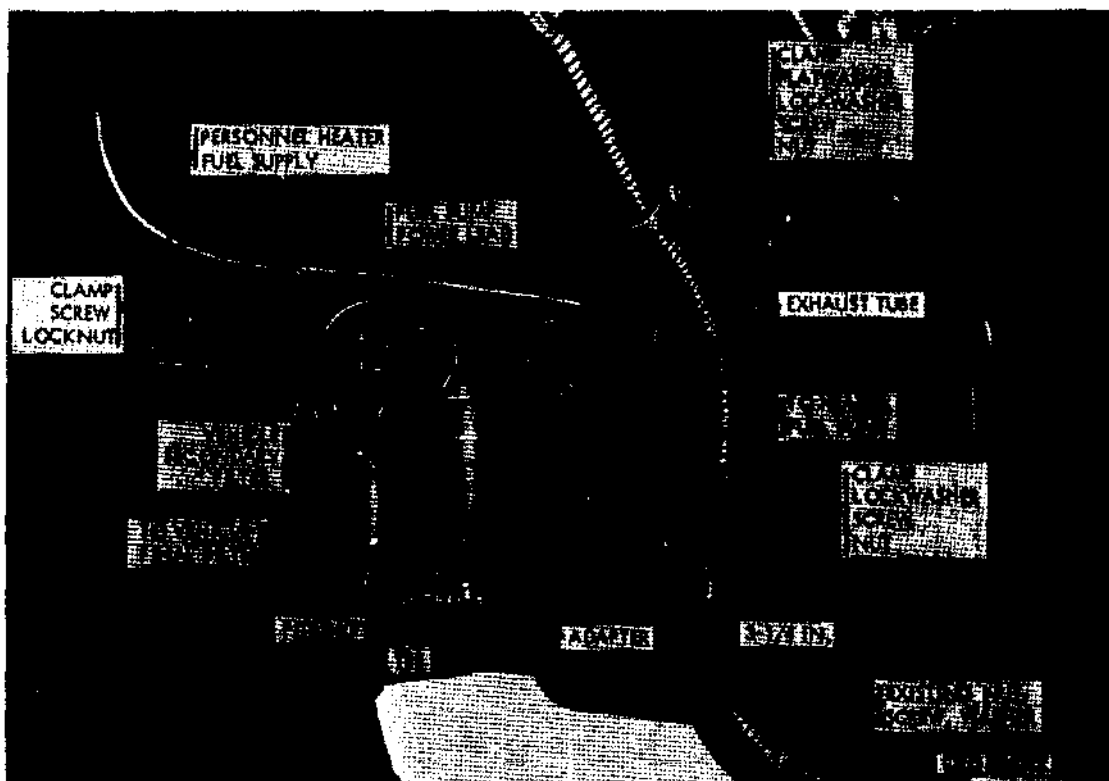
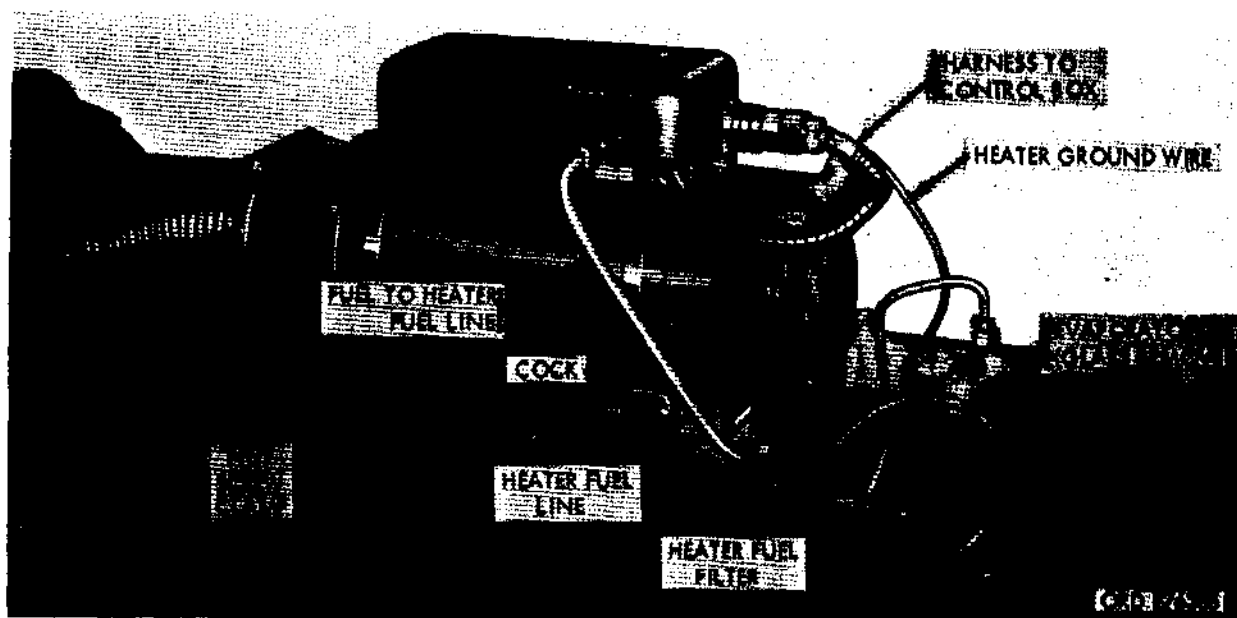

Figure 683. Attaching heater exhaust hose to fender.
Figure 686. Heater fuel lines at heater.
- (4) Drill 5/32 dia. hole through tube and elbow about 1 inch from edge of tube and insert ¼ x 3 cotter pin MS 96906-24665-363.
- (5) Place four clamps MS 96906-21333-99 around exhaust tube 7986268 approximately as indicated in Figure 683. Attach
upper 2 clamps to existing holes in fender reinforcement (Fig. 683) using ¼-28x½ screw MS 96906-35292-3, large flat washer MS 96906-35333-27, lockwasher MS 96906-27183-14 and nut MS 96906-51922-5.
- (6) Drill a 5/32 dia. hole in other arm of same fender reinforcement approximately 3-¼ inches from bottom of reinforcement (Fig. 683) and attach clamp to fender reinforcement with ¼ -28x 1 screw MS 96906-
- (3) Attach one adapter MS 39206-4 to other arm of tee installed in (1) above and attach other adapter MS 39206-4 to lower opening of fuel pump.
- (4) Attach filter bracket 10931990 to forward, inner side of heater mounting base (Fig. 686) using two 10-32x3/4 screws (MS 35207-265) and nuts 503209.
- (5) Attach filter MS 51085-1 to bracket installed in (4) above using two 10-32x1-3/4 screws MS 35207-270 and nuts 503209.
- (6) Insert nipple 121830 into heater fuel inlet and screw adapter MS 39203-4 onto it (Fig. 686).
- (7) Attach elbow MS 39202-4 to forward opening of heater filter.
- (8) Attach cock 543852 to rear opening of heater filter and attach adapter MS 39206-4 to cock.
- (9) Loosen tube from bottom of vehicle secondary filter and remove existing elbow. Discard elbow (Fig. 683).
- (10) At the opening of filter (9) above, screw on tee 444120, with one arm pointing in direction of elbow removed in (9) above.
- (11) Insert adapter MS 39206-6 into rearward arm of tee,
- (12) Insert fitting 137409 into forward arm of tee, and reattach vehicle secondary filter to final filter tubing disconnected in (9) above.
- (13) Attach pump-to-secondary filter tube.
- (14) Attach fuel pump-to-heater tubing.
- (a) Place $\frac{1}{4}$ tubing 8689207 (88 in. long) along top of tool compartment and snap it into oblong hole in top cut in a(5) above.
- (b) Attach tubing to arm of tee in upper part of pump (Fig. 676); run other end of tubing over vehicle filters and up through opening in inner fender (Fig. 683) and along side inner edge of heater mounting base and into cock inserted into heater filter in (8) above. Attach end of tubing to cock.
- (c) Clamp tubing at heater base (Fig. 686), fender opening (Fig. 683) and atop tool compartment (Fig. 675), using clamps